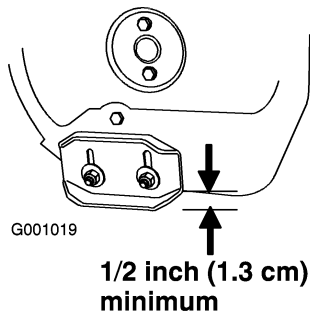

Figure 35
2. Loosen the nuts that secure both skids to the auger sides until the skids slide up and down easily (Figure 35).